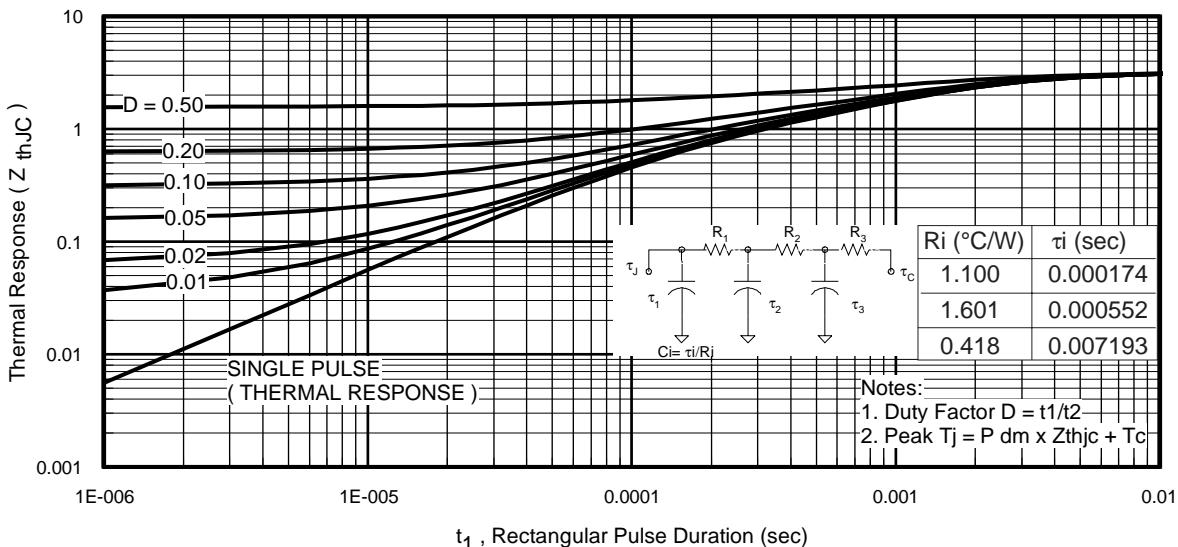
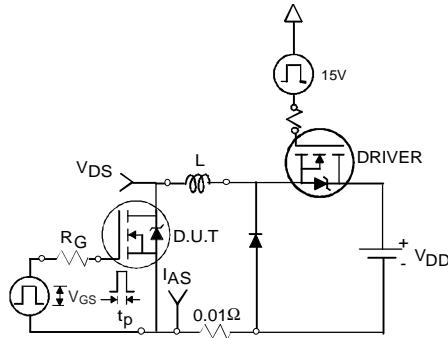

Fig 11. Maximum Effective Transient Thermal Impedance, Junction-to-Case
Fig 12a. Unclamped Inductive Test Circuit
| I_{AR} | Avalanche Current ① | See Fig.12a, 12b, 15, 16 | A |
3. Equation below based on circuit and waveforms shown in Figures 12a, 12b.
$Z_{thJC}(D, t_{av})$ = Transient thermal resistance, see figure 11)
- ① Repetitive rating; pulse width limited by max. junction temperature. (See fig. 11).
- ② Limited by $T_{J\max}$, starting $T_J = 25^\circ\text{C}$, $L = 0.18\text{mH}$ $R_G = 25\Omega$, $I_{AS} = 18\text{A}$, $V_{GS} = 10\text{V}$. Part not recommended for use above this value.
- ③ Pulse width $\leq 1.0\text{ms}$; duty cycle $\leq 2\%$.
- ④ $C_{oss\ eff}$ is a fixed capacitance that gives the same charging time as C_{oss} while V_{DS} is rising from 0 to 80% V_{DSS} .
- ⑤ Limited by $T_{J\max}$, see Fig.12a, 12b, 15, 16 for typical repetitive avalanche performance.
- ⑥ This value determined from sample failure population. 100% tested to this value in production.
- ⑦ When mounted on 1" square PCB (FR-4 or G-10 Material). For recommended footprint and soldering techniques refer to application note #AN-994